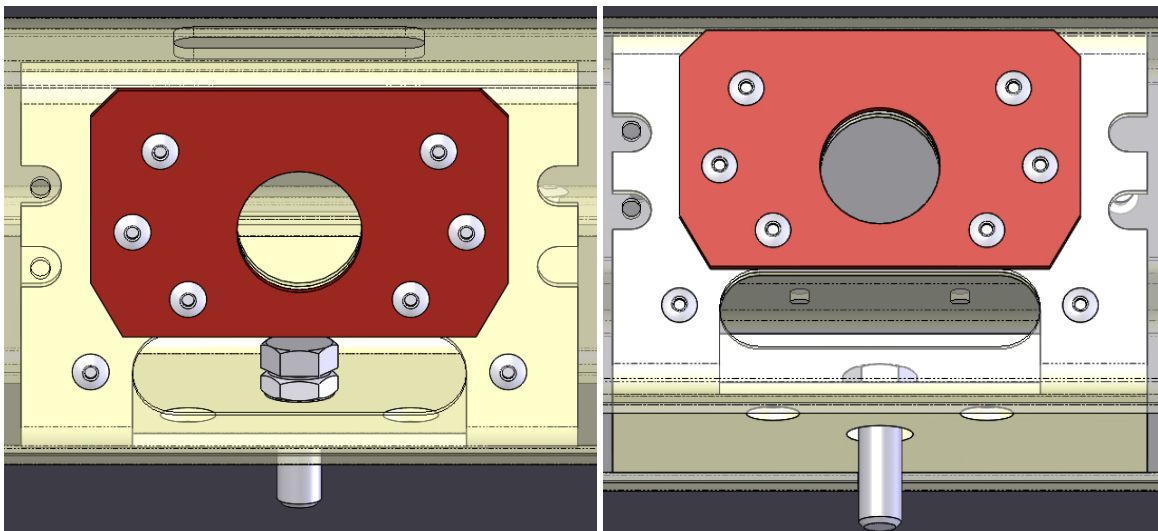

Fig. 19– Detail of anti-vibration damper fixing screw
1. Insert the M16 bolt and nut into the central hole of the frame at the lifting point (Fig. 19).